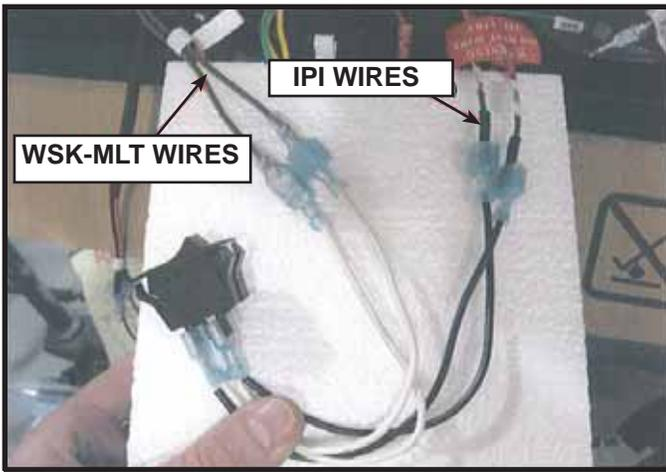

Figure 15.
18. Connect the rocker switch that is included with the WSK-MLT to the two brown wires from the WSK-MLT and the two brown wires from the IPI wire harness. See Figure 15.